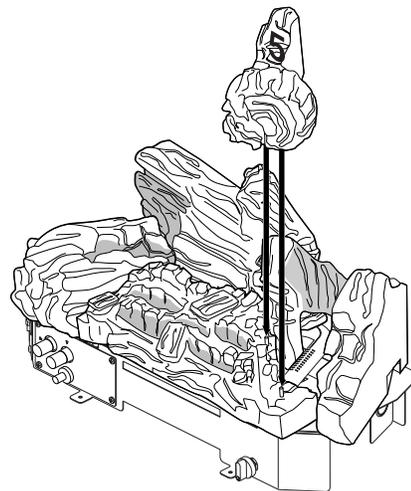

Figure 27 - Installing Log #5 (Model VGX30NT Shown)
5. Place log #5 onto the pins on log #1 (see Figure 27).